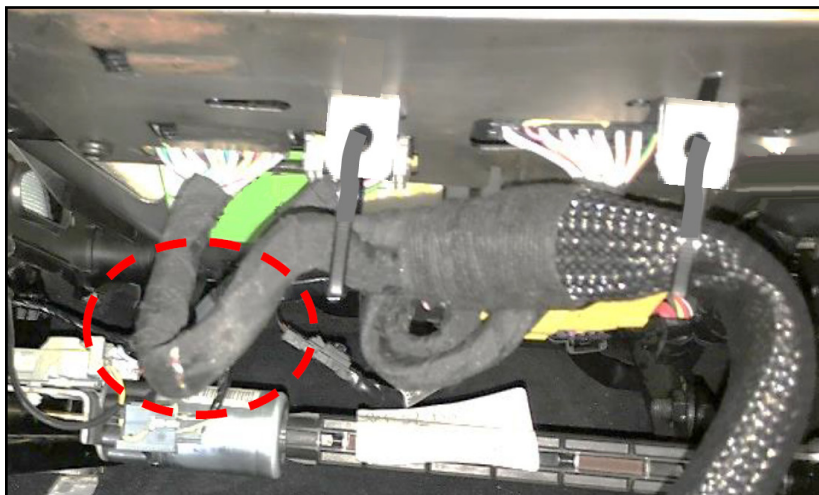

fig. 4
3. Add a cable tie to the next seat tab (fig.4), loosely.